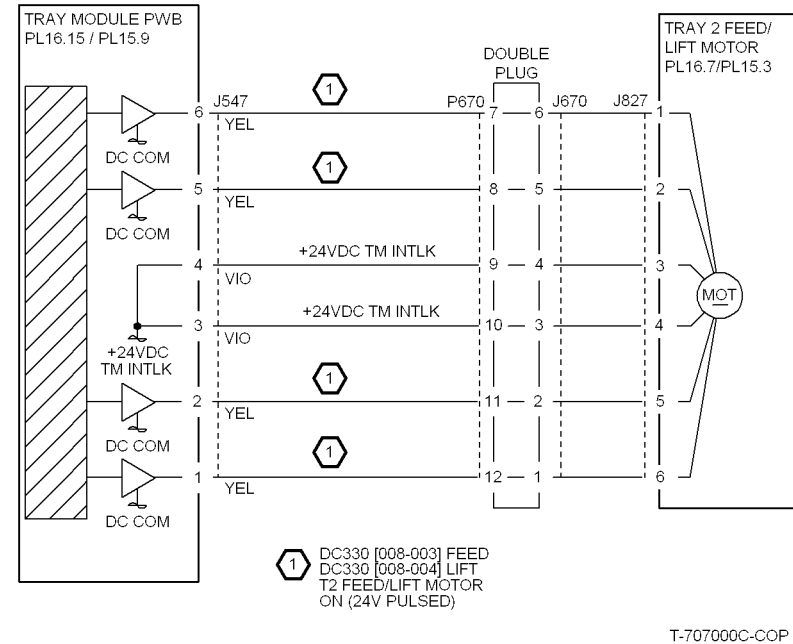
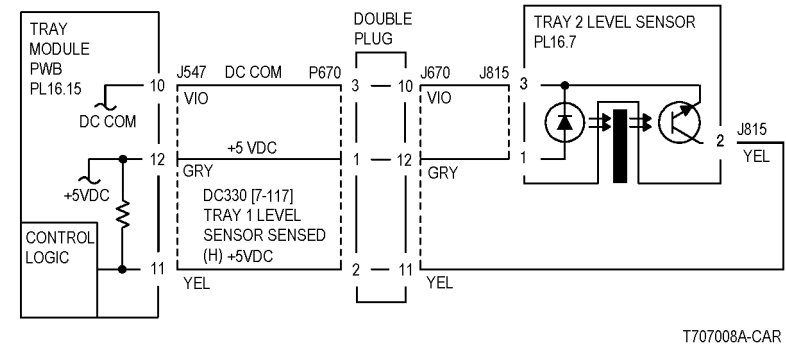

Figure 1 Tray 2 Lift/Feed Motor
Figure 2 Tray 2 Level Sensor
- Ensure that the connectors shown in the circuit diagrams (Figure 1, Figure 2) are securely connected and that the wires are not damaged.